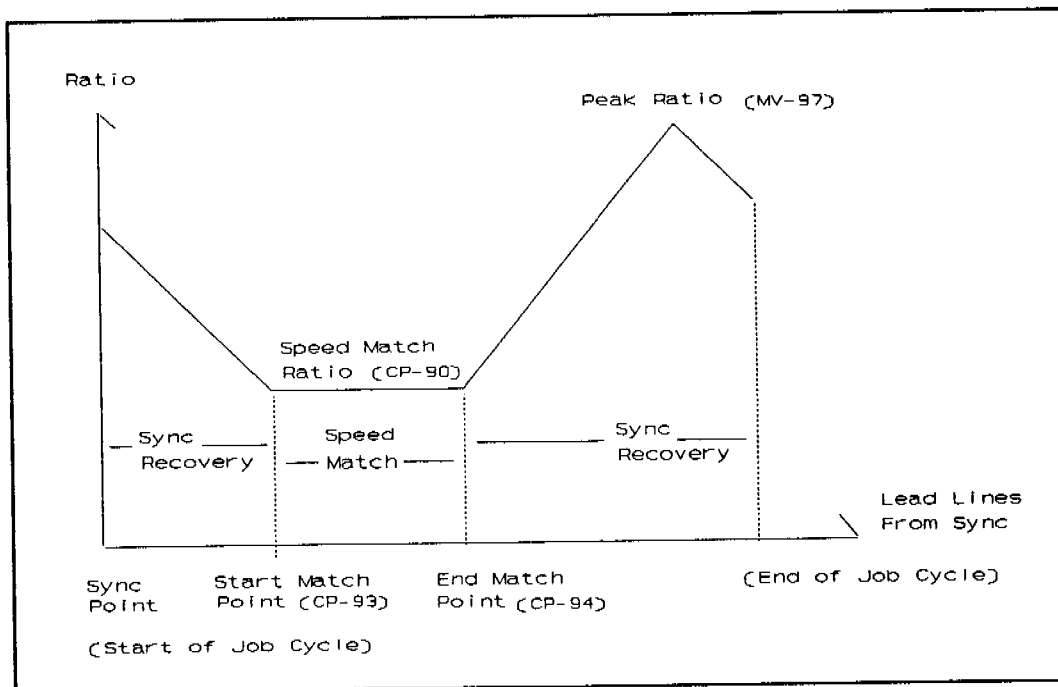

Figure 5-2: M-Rotary Synchronized Profiling
Figure 5-2 illustrates the Synchronized Profiling feature of the M-Rotary. The profile is defined in terms of speed ratio (follower/lead speed) as a function of lead position (lead encoder lines). The origin or beginning point of the profile is the lead and follower synchronization point. The profile can be separated into two sections, the speed match section and the recovery section. The speed match section is defined by the operator via three Entry Parameters: the Start Match Point (CP-93), the End Match Point (CP-94) and the Speed Match Ratio (CP-90). The recovery section of the profile required to maintain synchronization is automatically generated by the M-Rotary. The recovery section of the profile will consist of a triangular ramp profile that either speeds up or slows down the follower to maintain synchronization. The ramps generated in the triangular profile are at the least rate possible to maintain synchronization thus putting the minimum requirement on drive torque and minimum stress on the mechanical system.
**Note:** When changing setpoints by way of the logic inputs (Setpoint Select A, B and C), the transfer to the new profile will not occur until the sync point (see Figure 5-2) is reached. To ensure a smooth transfer CP-93 must = zero. If CP-93 does not = zero, any phase change between the old profile and the new profile will result in a possible large sync correction at the time of the transfer. This transfer will **ONLY** happen if the M-Rotary is in the Run state, Sync Profiling is enabled and CP-33 (Sync Lead Auto Enable) = 1.